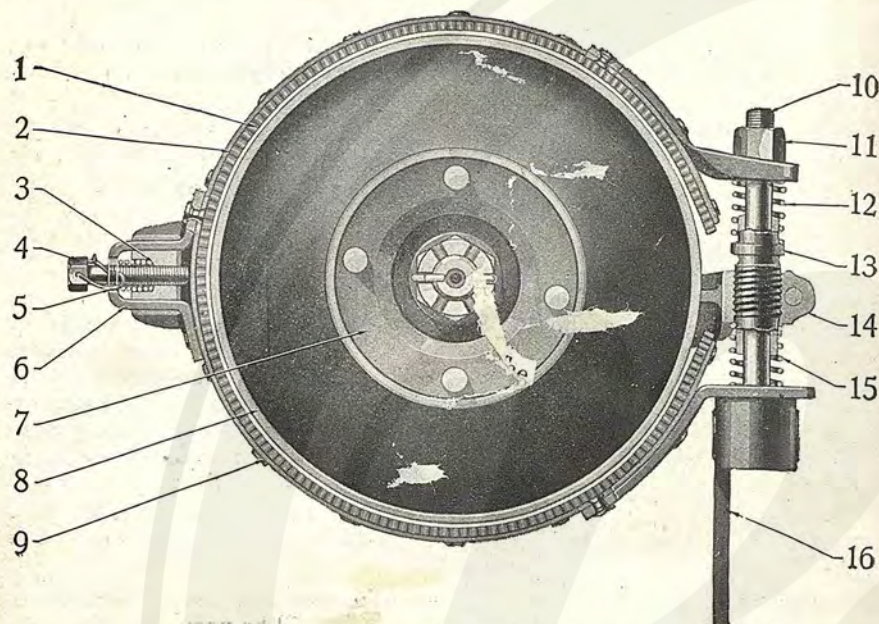

Fig. 9—Hand Brake
After installing new shoes and facings it will be necessary to adjust the anchor pins (10, Fig. 9) which are eccentric, so that the proper clearance between the facing and the drum will be assured. To do this it will be necessary to have a dummy drum with openings in it so that adjustments can be made and clearances checked. The anchor pins and cam adjustments should be so set that the clearance between the bottom of the facing and the drum is .006" and the clearance at the top .012".
Adjustment is made by first jacking up the rear wheels and setting the brake hand lever in the extreme forward position. Then the brake anchor adjusting screw (4, Fig. 9) should be turned so as to give $\frac{1}{16}$ " clearance between the drum and the lining, and it should be observed that the anchor clip moves freely on the anchor bracket while operating the brake. Next the adjusting screw (13) should be turned to give $\frac{1}{16}$ " clearance throughout the remainder of the lower half of the drum. The adjusting screw clamping bolt should be tightened after this adjustment has been completed and then the adjusting nut (11) turned so as to give $\frac{1}{16}$ " clearance between the upper half of the band and the drum. The band should conform to the drum at all points except at the ends as shown in the illustration.